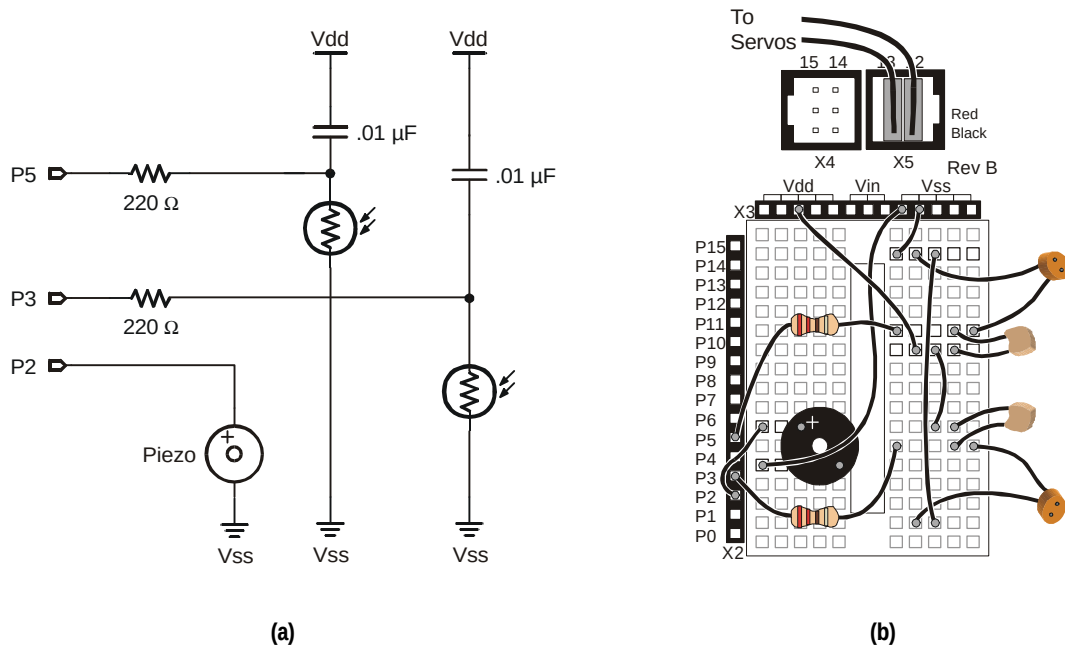

Figure 4.3: (a) Two photoresistor RC circuits for measurement of resistance that varies with light, and (b) breadboard example of the circuit.
Figure 4.3 shows (a) the resistor/capacitor (RC) circuit for each photoresistor and (b) a breadboard example of the circuit. A photoresistor is an analog device. Its value varies continuously as illuminance, another analog value, varies. The photoresistor's resistance is very low when its light-sensitive surface is placed in direct sunlight. As the light level decreases, the photoresistor's resistance increases. In complete darkness, the photoresistor's value can increase to more than 1 M Ω . Even though the photoresistor is analog, its response to light is nonlinear. This means if the input source (illuminance) varies at a constant rate, the photoresistor's value does not necessarily vary at a constant rate.
The circuit in Figure 4.3 (a) was designed for use with the PBASIC `rctime` command. This command can be used with an RC circuit where one value, either R or C, varies while the other remains constant. The `rctime` command lends itself to measuring the variable values because it takes advantage of a time varying property of RC circuits. The time it takes for the voltage on an RC circuit to change voltage depends on $R \times C$, the RC time constant. The RC time constant is often denoted by the Greek letter Tau (τ).
For one of the RC circuits shown in Figure 4.3 (a), the first step in setting up the `rctime` measurement is charging the lower plate of the capacitor to 5 V. Setting the I/O pin connected to the lower capacitor plate by the 220 Ω resistor high for a few ms takes care of this. Next, the `rctime` command can be used to take the measurement of the time it takes the lower plate to discharge from 5 to 1.4 V. Why 1.4 V? Because that's the BASIC Stamp I/O pin's threshold voltage. When the voltage at an I/O pin set to input is above 1.4 V, the value in the input register bit connected to that I/O pin is "1." When the voltage is below 1.4 V, the value in the input register bit is "0."
The `rctime` command for the circuit shown in Figure 4.3 measures how long it takes for the voltage at the lower plate of the capacitor to fall from 5 to 1.4 V. This time varies according to the formula:
Equation 4.1 indicates that the time it takes the voltage at the lower plate of the capacitor in one of the Figure 4.3 (a) RC circuits to drop from 5 to 1.4 V is directly proportional to the photoresistor's resistance. Since this resistance varies with illuminance (exposure to varying levels of light), so does the time. By measuring this time, relative light exposure can be inferred.